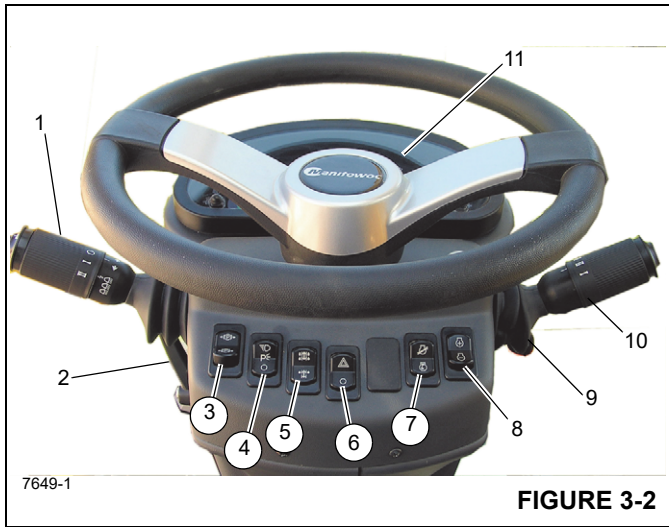

Figure 3-2 Item Numbers
The steering column assembly in Figure 3-2 is a pedestal style tilt and telescoping steering column. It has the ability to tilt forward 30° or be raised vertically approximately 60 mm (2.5 in). It also includes the ignition switch and the CANbus gauge display (11) (Figure 3-2).
The Turn Signal Lever and Windshield Wiper/Washer Controls (1) (Figure 3-2) are located on the left side of the steering column. Pushing the turn signal lever down causes the left front and left rear turn signals to flash. Pushing the turn signal lever up causes the right front and right rear turn signals to flash.
The steering control column can be rotated forward approximately 30° and raised approximately 60 mm (2.5 in). Move the control lever (2) (Figure 3-2) down to lock the steering column in place; rotating the lever up releases the steering column for the required adjustments.
The Park Brake Control Switch (3) (Figure 3-2) is located on the front of the steering column. This two-position rocker switch (ON/OFF) is used to apply and release the parking brake on the drive line. The red Park Brake Indicator light on the steering column is illuminated when the pressure switch in the brake release system is activated and the brake is applied.
The Headlights Switch (4) (Figure 3-2) is located on the front of the steering column. This three-position rocker switch (OFF/PARK/HEADLIGHT) controls operation of the instrument lights, switch LED's, and the marker lights on the front, rear, and side of the crane. When the switch is in the ON position, the steering column and switch lights are illuminated.
The Drive Axle Selector Switch (5) (Figure 3-2) is located on the front of the steering column. This two-position rocker switch is labeled two-wheel drive (high range) and four-wheel drive (low range). The switch controls a solenoid valve (energized for two-wheel drive) that operates the speed range and axle disconnect cylinders on the transmission. When the switch is in the four-wheel drive position, the Drive Axle Indicator light on the steering column is illuminated.
The Hazard Lights Switch (6) (Figure 3-2) is located on the front of the steering column. The switch is a two-position rocker switch (ON/OFF) that causes the four turn signal lights to flash at the same time when the switch is positioned to ON. When the switch is positioned to ON, the turn signal indicator lights on the steering column will flash.
The Test Mode Switch (7) (Figure 3-2) is used when servicing the engine's electronic control system. It is a two position on/off rocker switch used to activate the diagnostic mode (fault codes). The ignition switch must be ON but the engine not running. When the Test Mode Switch is ON, and is used in conjunction with the Idle/Diagnostic Mode Switch, access will be gained to scroll up or down through the fault codes.
The Idle/Diagnostic Mode Switch (8) (Figure 3-2) is a three position (+/-) momentary rocker switch that provides idle-control inputs that increases and decreases the engine idle (when the Test Mode Switch is in the OFF position) or scrolls up or down through the diagnostic mode fault codes when the test mode switch is in the ON position with the engine not running.
The Transmission Shift Lever (10) (Figure 3-2) is located on the right side of the steering column. The control lever operates the transmission selector valve electrically. Positioning the lever up actuates forward and positioning the lever down actuates reverse. When the lever is in neutral, it rests in a detent. To move the lever up or down, pull back on the lever first. To shift the transmission to first, second, or third gear, rotate the knob to 1, 2, or 3.